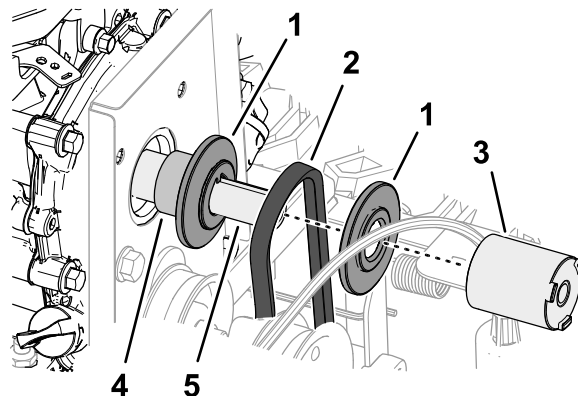

**Figure 49**
- Slip the traction belt between the friction wheel and the traction pulley, and into the machine (Figure 49).